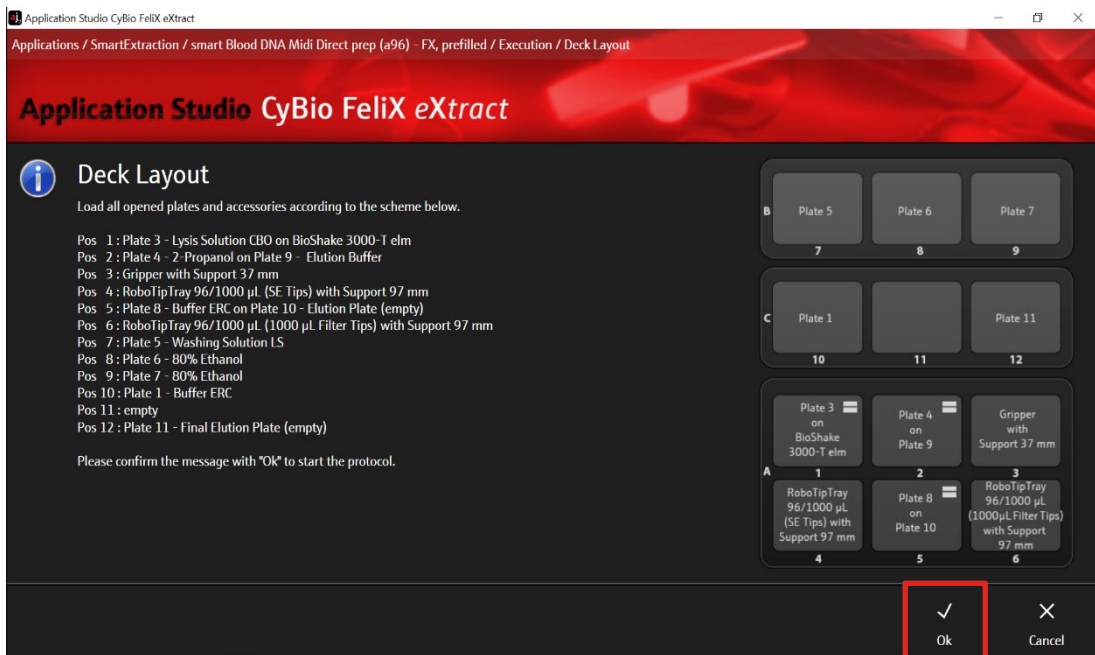

Figure 8: List of deck positions and corresponding plates.
8. Check the correct positioning of plates on the corresponding deck positions (→ see Figure 8) and confirm with "Ok".